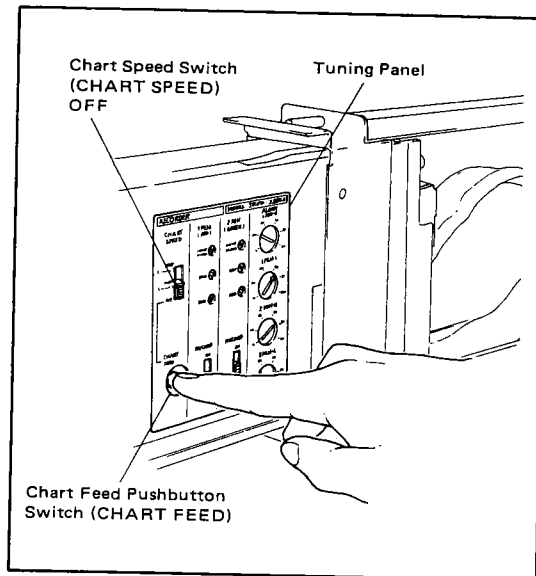

Figure 5-11. Fast Forward Chart Mode.
- Press the chart feed pushbutton switch (located on the same panel). As a result, the chart goes into a fast forward mode (See Figure 5-11) and the slack is eliminated.